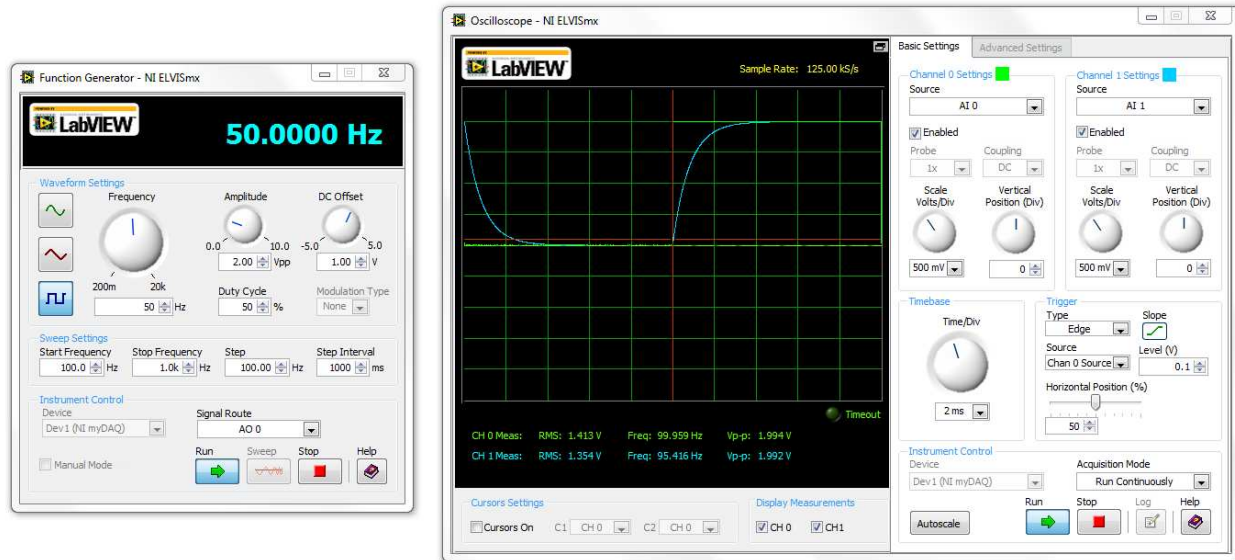

Figure 12: Open loop response of the first order plant
3. Connect a $1\ \mu\text{F}$ (105) capacitor from pin 5 to ground. Connect a $1\ \text{k}\Omega$ from pin 5 to the function generator and Channel 0 of the oscilloscope.
6. Measure the output of the plant and it should look like Figure 12. This represents the open loop response of the system plant. If you do not get a response similar to this figure, do not move on until you fix the circuit.